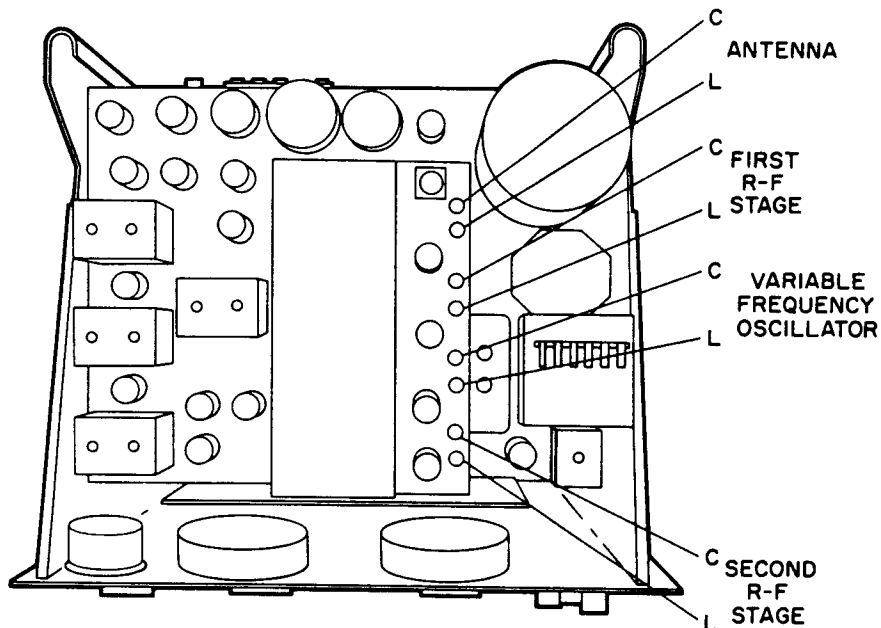
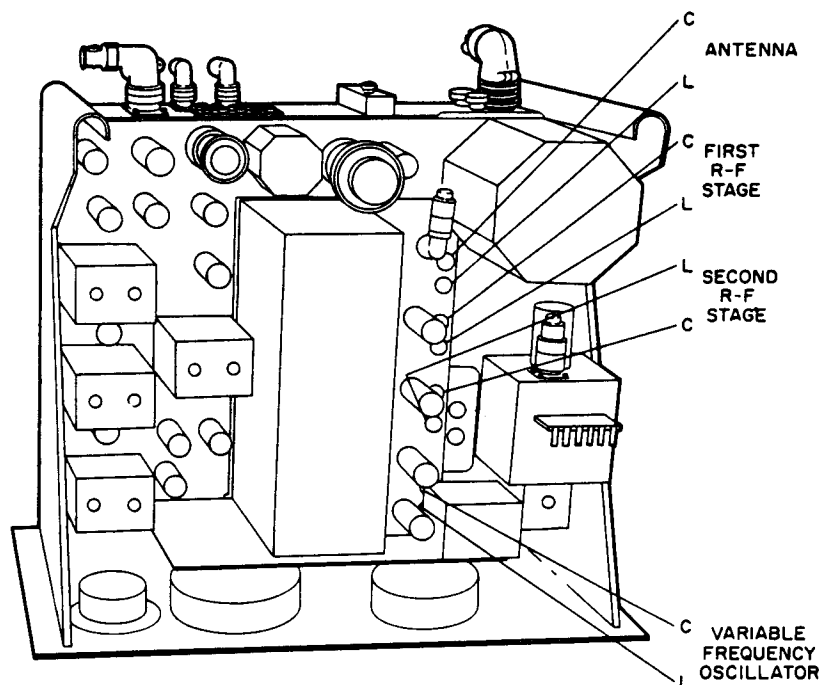

Figure 2-5. Radio Receiver SP-600-JX-21, Top View of R-F Section
Figure 2-6. Radio Receiver SP-600-JX-17, Top View
- (2) Set the MOD-CW switch on the radio receiver to the MOD position.
- (3) Set the **SELECTIVITY** switch on the radio receiver to the **3 NON-XTAL** position.
- (4) Set the **MULTIPLIER** switch on the signal generator to the **.1** position and adjust the **CARRIER CONTROL** until an indication of **100** is obtained on the signal generator output meter.
- (5) Adjust the **MICROVOLTS** control on the signal generator until an indication of **30** is obtained on the upper scale of the signal generator output meter.
- (6) Set the **MOD SELECTOR** switch on the signal generator to the **400 cycle** position.
- (7) Set the **METER READS** switch on the signal generator to the **% MOD** position and adjust the **% MODULATION** control until an indication of **30** is obtained on the lower scale of the signal generator output meter.
- (8) Set the **METER READS** switch on the signal generator to the **RF** position.
- (9) Rotate the **BAND CHANGE** switch on the radio receiver until the indication **0.54-1.35** appears in the **MEGACYCLES** window.
- (10) Rotate the radio receiver **TUNING** control until an indication of **0.56** megacycle is obtained on the main tuning and vernier dials.
- (11) Adjust the **AUDIO GAIN** control on the radio receiver until an indication of **2.45** volts is obtained on the multimeter.
- (12) Refer to figure 2-5 for Radio Receiver **SP-600-JX-21** or figure 2-6 for Radio Receiver **SP-600-JX-17**. Remove the metal caps and adjust, in turn, variable-frequency oscillator L, antenna L, first r-f stage L, and second r-f stage L until a maximum indication is obtained on the multimeter.
- (17) Adjust the CARRIER CONTROL on the signal generator until an indication of 100 is obtained on the signal generator output meter.
- (18) Adjust the MICROVOLTS control on the signal generator until an indication of 30 is obtained on the upper scale of the signal generator output meter.
- (19) Set the MOD SELECTOR switch on the signal generator to the 400 cycle position.
- (20) Refer to figure 2-5 for Radio Receiver SP-600-JX-21 or figure 2-6 for Radio Receiver SP-600-JX-17. Adjust, in turn, variable-frequency oscillator C, antenna C, first r-f stage C, and second r-f stage C until a maximum indication is obtained on the multimeter.
- (21) Rotate the CARRIER CONTROL on the signal generator fully counterclockwise.
- (22) Set the MOD SELECTOR switch on the signal generator to the OFF position.
- (23) Repeat step b. (4) through (6) and (8) through (22).
- (24) Rotate the signal generator tuning dial until an indication of 1.4 megacycles is obtained on the frequency and index scales.
- (25) Rotate the BAND CHANGE switch on the radio receiver until the indication 1.35-3.45 appears in the MEGACYCLES window.
- (26) Rotate the radio receiver TUNING control until an indication of 1.4 megacycles is obtained on the main tuning and vernier dials.
- (27) Repeat step b. (17) through (19).
- (28) Refer to figure 2-5 for Radio Receiver SP-600-JX-21 or figure 2-6 for Radio Receiver SP-600-JX-17. Adjust, in turn, variable-frequency oscillator L, antenna L, first r-f stage L, and second r-f stage L until a maximum indication is obtained on the multimeter.
- (29) Repeat step b. (13) and (14).
- (30) Set the FREQUENCY BAND SWITCH on the signal generator to the Band F position and rotate the signal generator tuning dial until an indication of 3.4 megacycles is obtained on the frequency and index scales.
- (31) Rotate the radio receiver TUNING control until an indication of 3.4 megacycles is obtained on the main tuning and vernier dials.
- (32) Repeat step b. (17) through (19).
- (33) Refer to figure 2-5 for Radio Receiver SP-600-JX-21 or figure 2-6 for Radio Receiver SP-600-JX-17. Adjust, in turn, variable-frequency oscillator C, antenna C, first r-f stage C, and second r-f stage C until a maximum indication is obtained on the multimeter.
- (34) Rotate the CARRIER CONTROL on the signal generator fully counterclockwise.
- (35) Set the MOD SELECTOR switch on the signal generator to the OFF position.